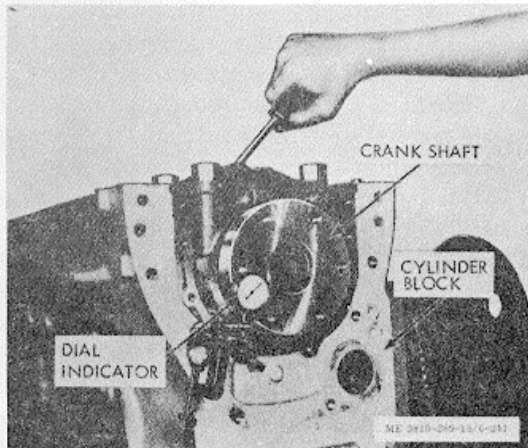

Figure 3-232. Checking crankshaft end play.
(3) Pry crankshaft toward rear of block (fig. 3-232); remove pry bar and read gage. Total gage reading should be 0.004/0.015 in. with new (or rebuilt) crankshaft and new thrust rings.
(4) If reading is less than 0.004 inch: